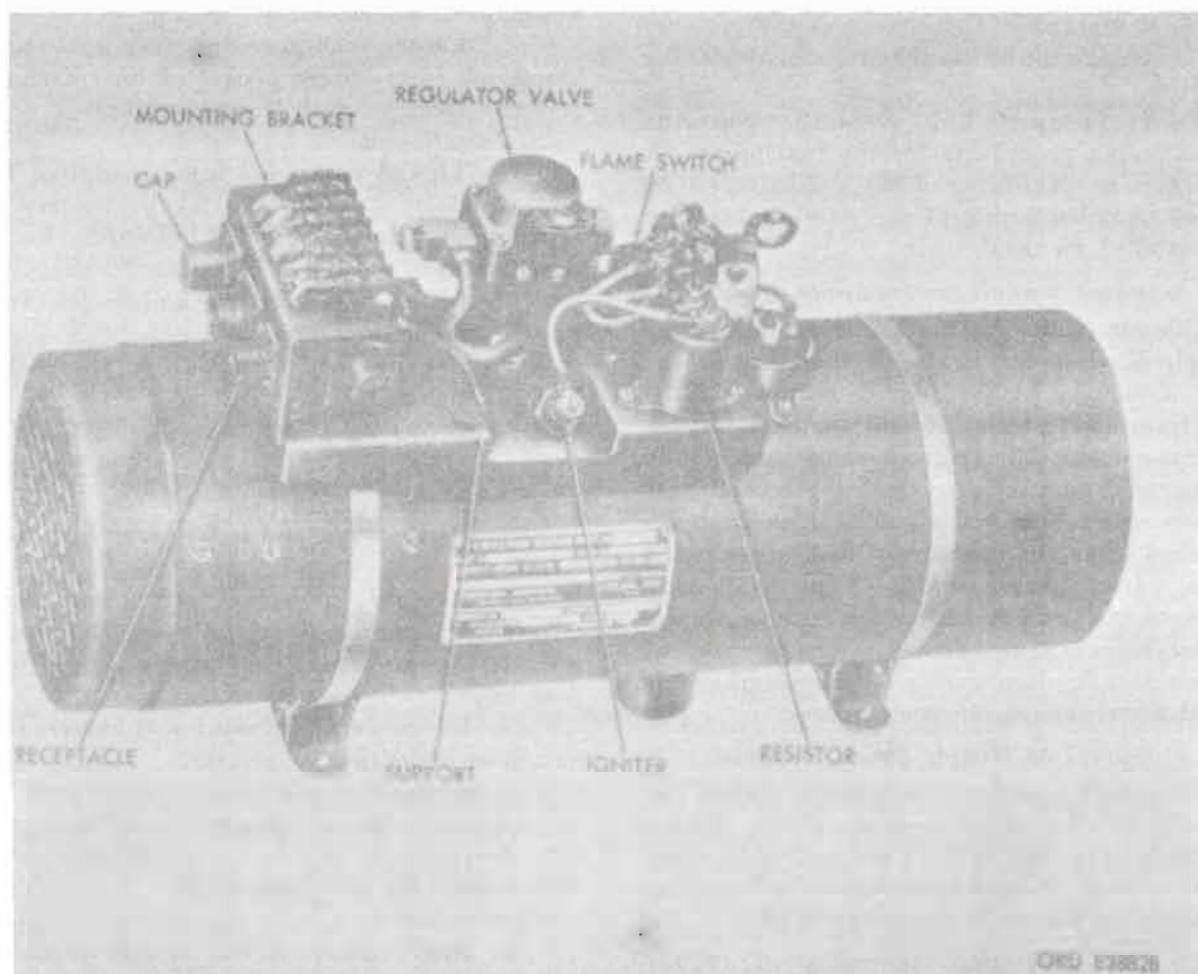

Figure 18-53. Electrical system components (1092608 heater).
(2) *Electrical system (fig. 18-52).* The heater electrical system is designed for fail-safe operation. Therefore, the heater will cease to operate in case of a failure of any circuit, mechanical part, or in the event that the heater casing overheats. The electrical system includes a remotely mounted control box assembly (directly connected to the heater controls support assembly by the cable assembly), the terminal block, flame switch, resistor, igniter assembly, thermal relay, connectors, blower, and limit switch (fig. 18-53). The three connectors of the terminal block, mounted on the controls support, are the junction for connections of the thermal relay, regulator valve, flame switch, and resistor on 24-volt units. The flame switch controls the electrical supply to the igniter, blower motor, thermal relay, and control box assembly indicator lamp. The switch is mounted in the upper part of the frame. The lower part contains a long, heat resisting metal tube which encases a quartz rod and a heat resisting metal rod. The open end of the frame is attached by a screw, which permits the adjustment of pressure exerted by the quartz and metal rods on the switch. The heat resisting metal tube extends into the combustion chamber of the heater, where it is subjected to the heat resulting from combustion. The heat causes the tube to expand and allows the quartz rod, which does not expand as much as move and release the pressure from the switch button. This changes the contact positions of the switch and removes the igniter and resistor from the circuit. When the heater is turned off, the metal tube cools and contracts, forcing the quartz rod back into position against the metal rod and the switch button. This resets the switch to its original (cold) position. The igniter assembly consists of a coil of resistance wire, partially encased in a protective metal cartridge. When the proper voltage is applied to the igniter assembly, it becomes hot enough to vaporize and ignite the fuel which has entered the burner through the fuel inlet connection and saturated the burner wick. The igniter is designed for not more than a 12-volt system. The system on this vehicle (24v) must have a resistor wired into the circuit to reduce the voltage at the igniter. The thermal relay is a safety device incorporated into the heater's electrical system. It consists of a heating element, warp lever, and a set of contacts. The thermal relay completes the circuits to the fuel pump, regulator valve solenoid shutoff coil, flame switch, and resistor. When the control switch is placed in an operating position, ignition should take place within two minutes. If ignition does not take place as specified, the thermal relay warp lever will heat up and, after 120 seconds of operation, will separate the contacts to break the circuit to the fuel pump and stop the flow
(3) *Fuel system.* Fuel is brought to the heater assembly by a fuel pump. From the fuel pump it flows to the regulator valve assembly which controls the amount of fuel as called for by the control switch setting. From the regulator valve, the fuel passes through a thin-plate orifice fuel metering tee assembly which meters the correct amount of fuel entering the burner for combustion. The fuel pump is installed in the fuel system and is electrically connected to the heater's operating circuits. The fuel pump supplies fuel at low pressure to the regulator valve. The pump is designed with a solenoid which, when energized, activates a hollow plunger. The stroke of the plunger is controlled by a set of interrupter points in the electrical circuit and a calibrated plunger spring. The pump is self-priming, requiring no bleeding or adjustments on first start. The regulator valve (fig. 18-53) is mounted on the heater's controls support. It is made up of two parts: The upper is a solenoid shut off valve, and the lower is a high-low pressure regulator. The pressure regulator controls the pressure of the fuel being supplied to the tee assembly for the burner. The regulator valve is electrically operated with the solenoid shutoff part connected to the heater circuit which supplies power to the fuel pump. The high-low pressure regulator is directly connected to the control switch on the control box assembly. When the solenoid shutoff valve coil is energized, it raises a valve from its seat, and allows fuel to flow into the pressure regulator section of the assembly. This pressure regulator consists of a diaphragm which is balanced by calibrated springs and actuates a needle valve by means of fuel pressure against the diaphragm. At the "high-fire" setting, there are two springs separated by an armature working with this diaphragm. These springs exert an upward force against the diaphragm. When fuel pressure against the diaphragm has reached the preset spring pressure, the needle valve shuts off the flow of fuel until the pressure has decreased. In this manner, fuel under constant pressure is provided the tee assembly for metering to the burner. At the "low-fire" setting, when the pressure regulator coil is energized by the setting of the control switch, the armature separating the two springs is held down